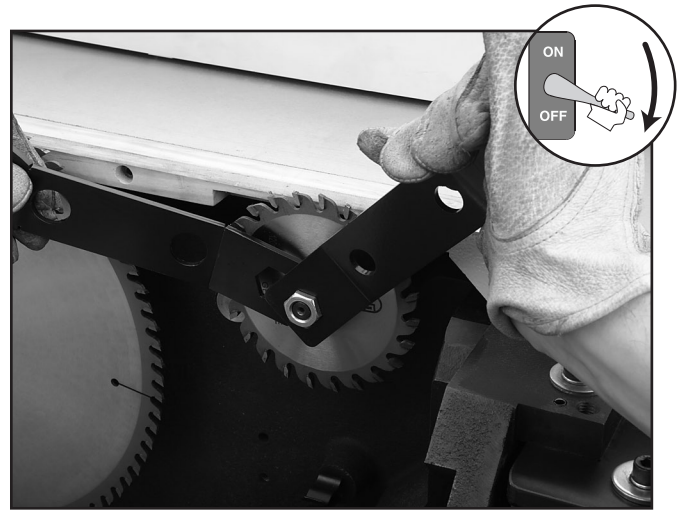

Figure 60. Removing the scoring blade.
4. To remove the scoring blade, use the arbor wrench to remove the arbor nut and arbor flange (see **Figure 60**). Note—*The arbor nut has right-hand threads and loosens by turning counterclockwise.*